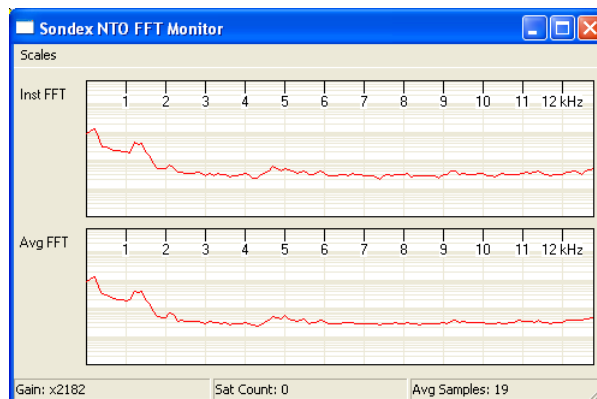
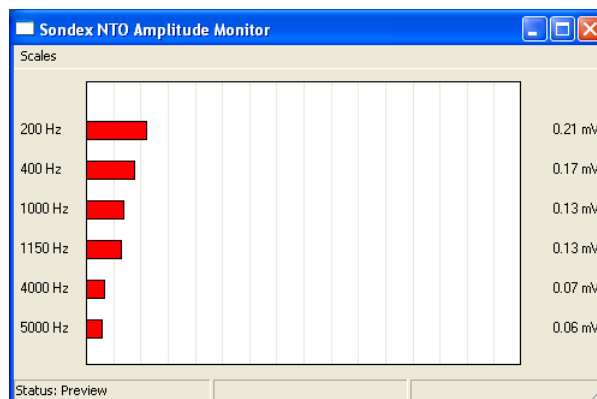

Figure 4-2 Typical FFT Monitor response in Warrior
Figure 4-3 Typical Amplitude Monitor response in Warrior
These signals are conditioned for frequencies that range from 100Hz to 12.7KHz and are processed digitally downhole to produce a Fast Fourier Transform (FFT) spectrum. This processed signal is sent to the surface where it can be displayed in both FFT and multiple high-pass filter-band formats (refer to Figure 4-2 and Figure 4-3). The magnitudes of the acoustic signals detected in the various frequency bands are displayed as a voltage (in millivolts) and represent the signal from the Sensor Section Assembly.
- 3 Use a finger (**NOT** a tool) to tap gently on the Crystal Housing (*item 11*) to produce signals within the NTO009 that can be read in Warrior. See Figure 4-2 and Figure 4-3 for typical responses in Warrior. Refer also to the Warrior manual (MN-WARRIOR).
Note: With reference to Figure 4-2, bin zero is always to the left edge of the display.